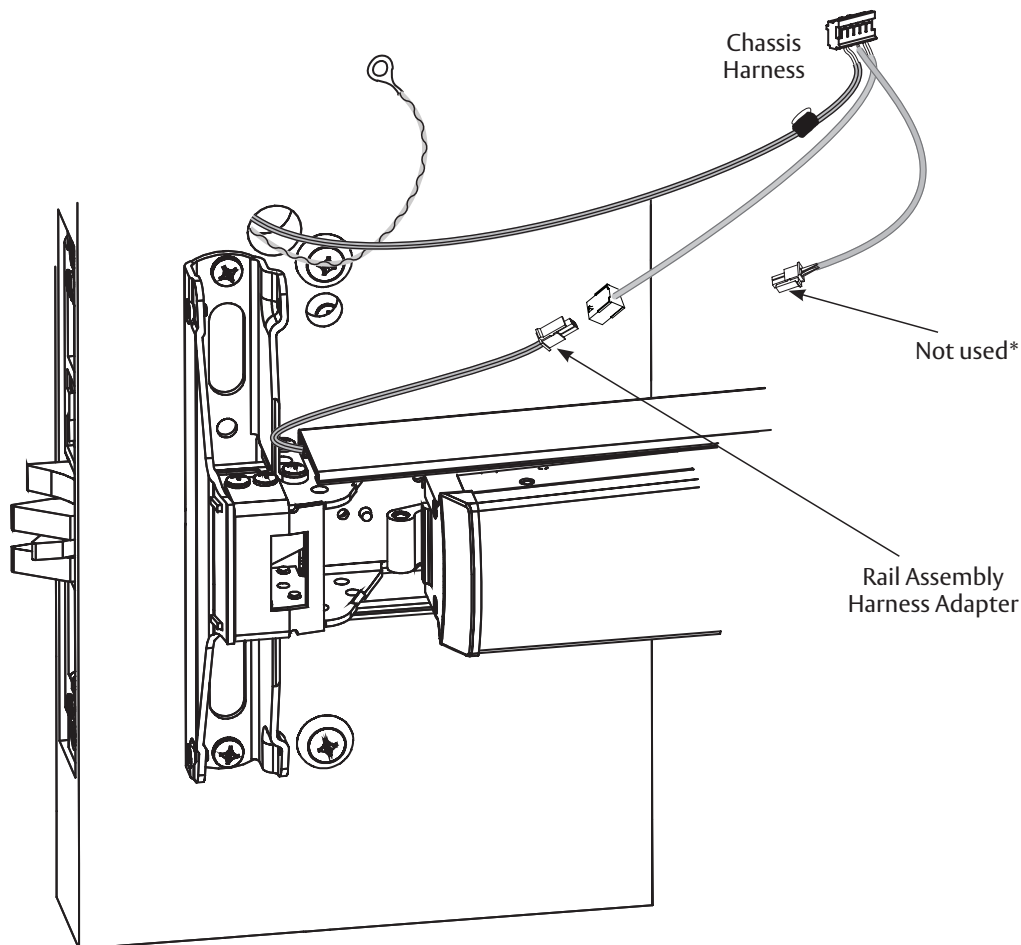

Figure 6-5
1. Connect motor harness adapter to chassis harness connector. (Figure 6-5)
2. Connect rail assembly harness adapter to chassis harness connector. (Figure 6-5)